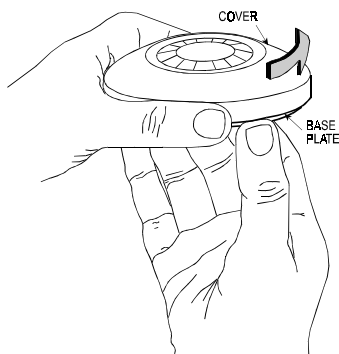

Figure 2. Separating the cover from the Base
A. Hold the base with one hand as shown in Fig. 2. Twist the cover counter-clockwise with the other hand until it stops. Separate the cover from the base, and put it in a safe place, to avoid accidental damage.